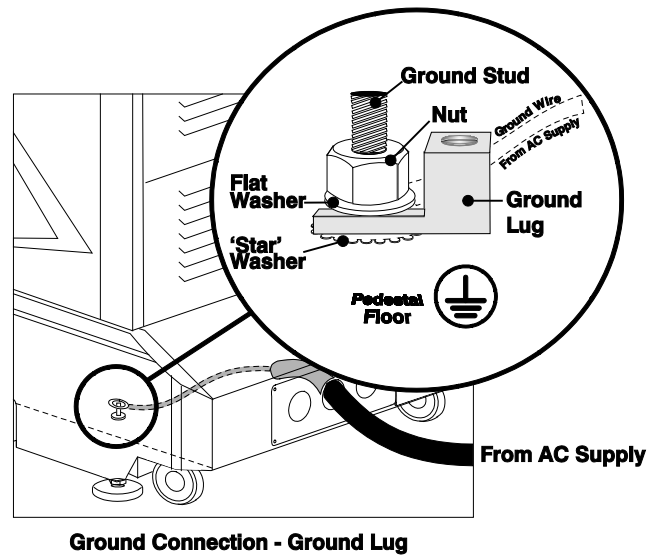
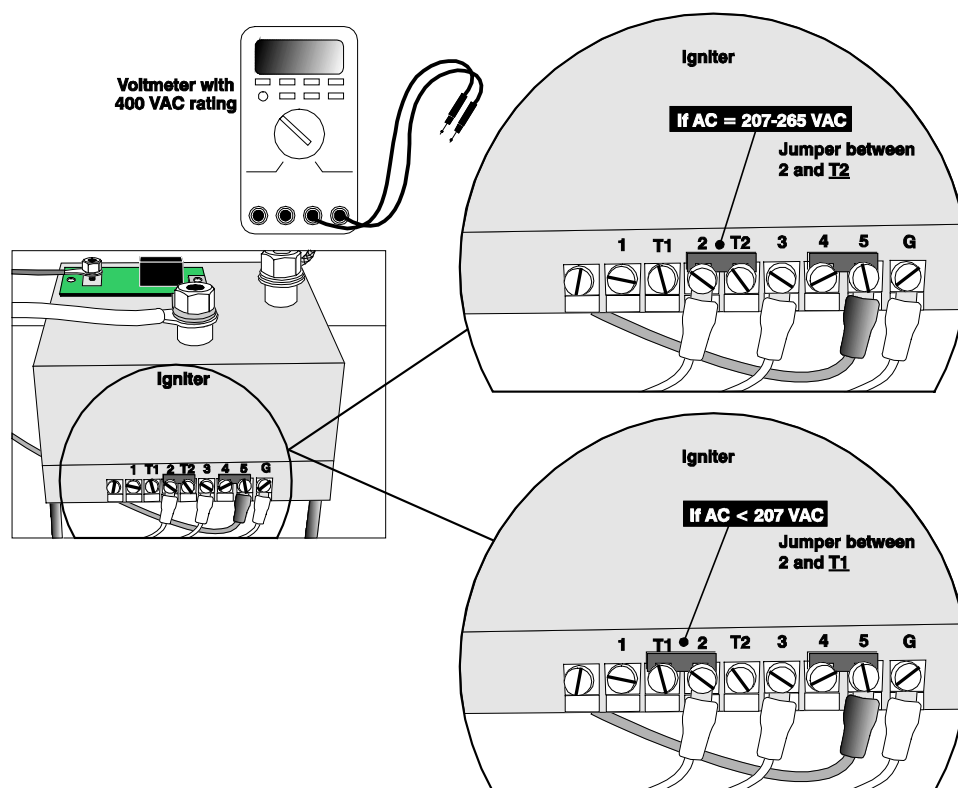

Figure 2.18. Connect Incoming Ground Wire (shown for pedestals manufactured November 17, 2006 and after)
Figure 2.19. Check Voltage and Position Jumper
2. Connect the incoming AC ground lead directly to the frame ground stud on the floor of the pedestal (Figure 2.18 or Figure 2.19). Secure with both washers and nut provided, and make sure there are no other wires present at this stud.